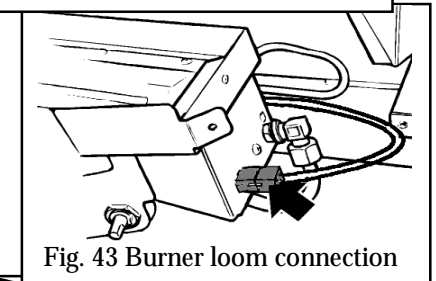

Fig. 43 Burner loom connection
- Detach the burner wiring loom connection at the right side of the burner (see figure 43).